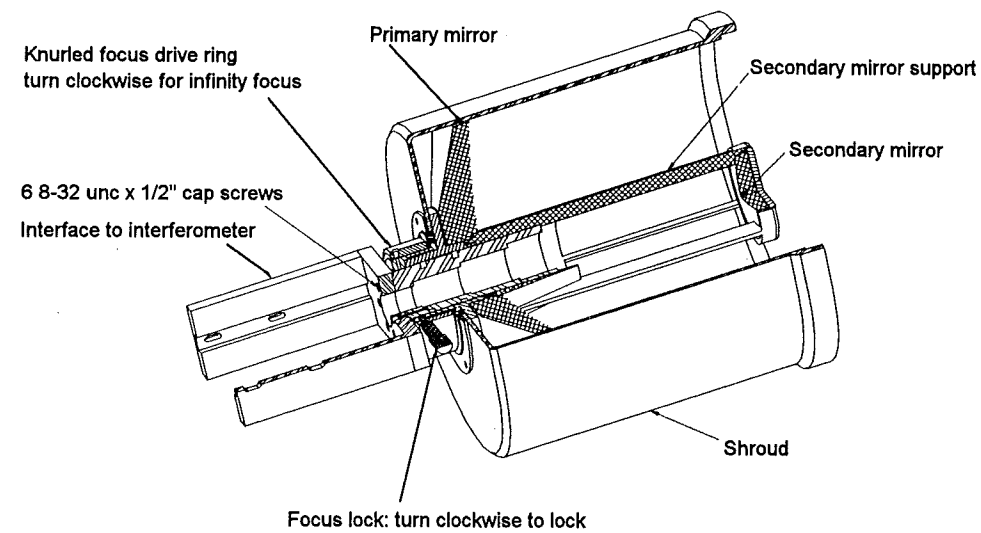

Figure 19. Cut-away of telescope
- Rotate the arm attached to the telescope. To do this easily, first unscrew the extremity of the telescope arm. See Figure 19.